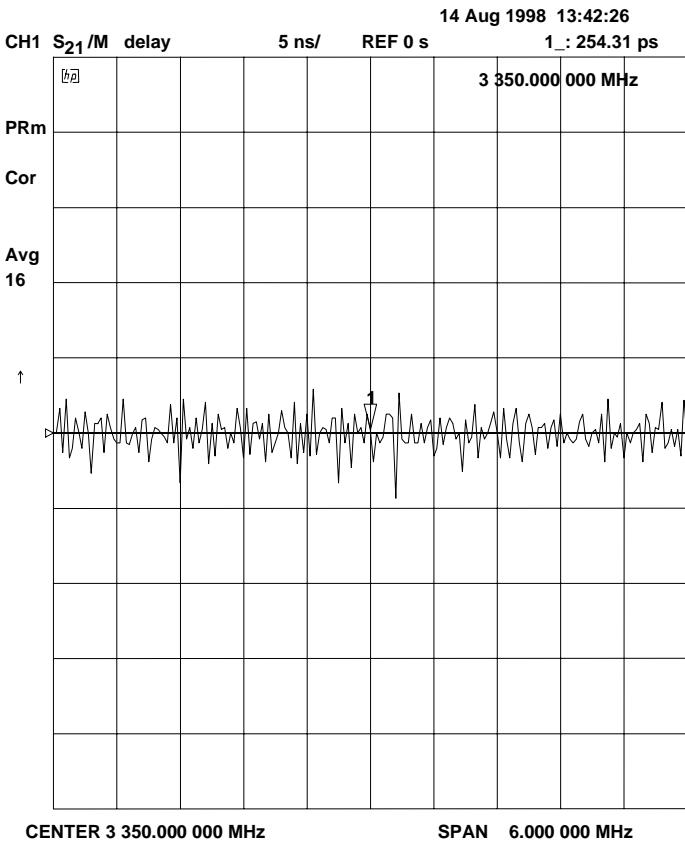

Figure 2. Channel 1 Path 1 Delay Measurement
4. Store the 8753D data-to-memory and set the display to DATA/MEM (Figure 2).